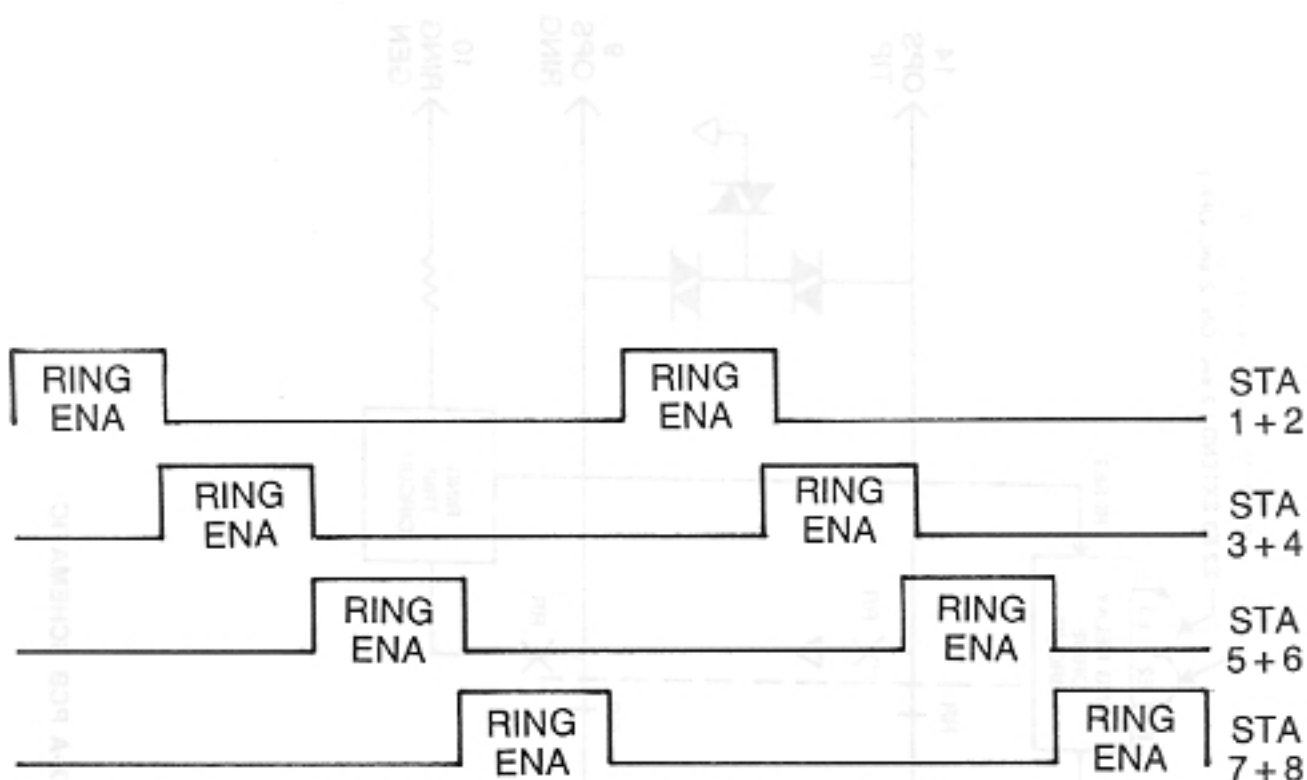

Figure 12 B-8SLU-B RING ENABLE CYCLES
**5.02** Ring Equivalence Number ( REN ) considerations when connecting off-premise stations are provided in Figure 12
Figure 12 shows the relationship between the ring enable signal found on one SLU card. The ring equivalence number ( REN ) of the station pairs shown ( 1 and 2 ), ( 3 and 4 ), ( 5 and 6 ), ( 7 and 8 ) must not exceed 5.0B, when both stations in each pair be addressed to ring at the same time.